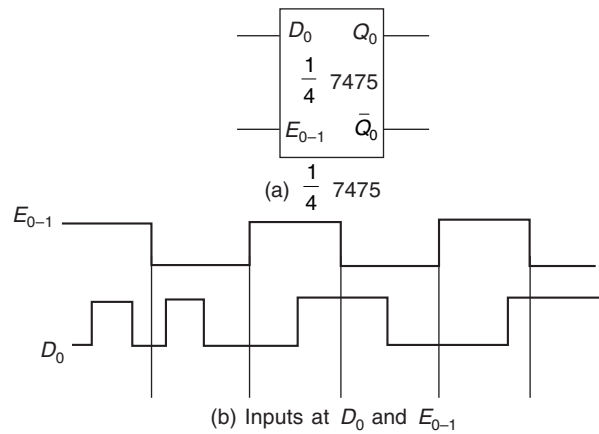

Fig. 12.19
12.16 For the inputs at D_0 and E_{0-1} for the 7475 D latch shown in Fig. 12.19(a) sketch the output waveform at Q_0 . The input waveforms are given in Fig. 12.19(b).